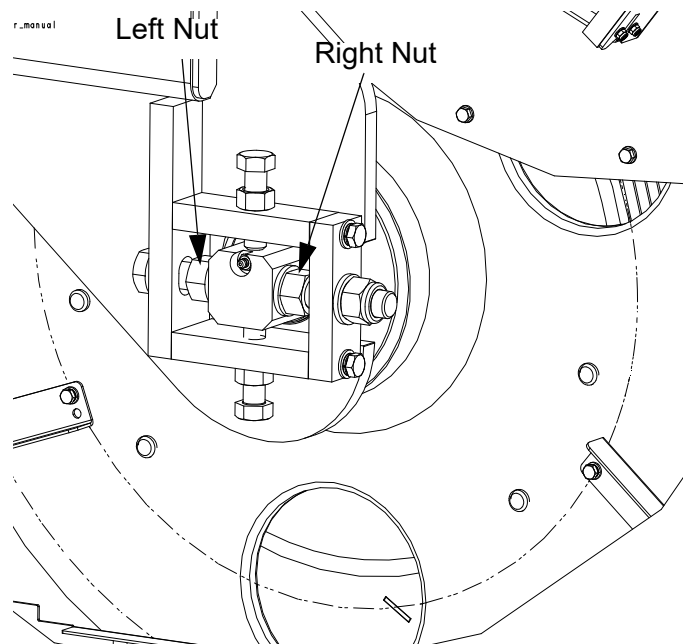

FIG. 3-26
See Figure 3-26
5. Use the cant adjustment nuts, shown in **Figure 3-26**, to adjust when the blade travels on the blade wheels.